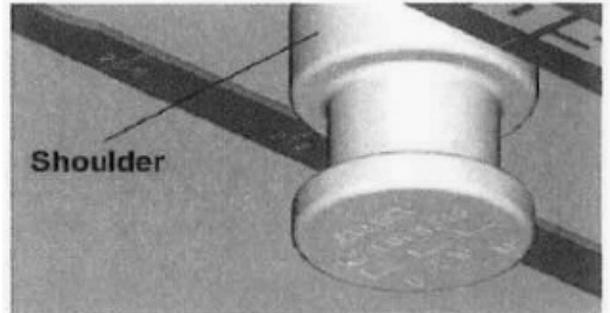

FIGURE 2
- Repeat the above procedure using the large slot on the shoulder of the kingpin (see figure 2).